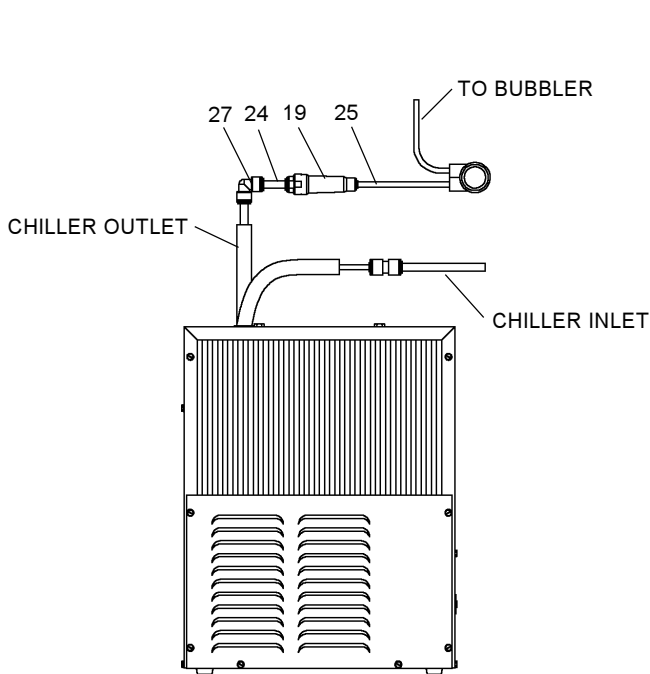

FIG. 7
8. Water supply connections (See Fig 7 & 8)